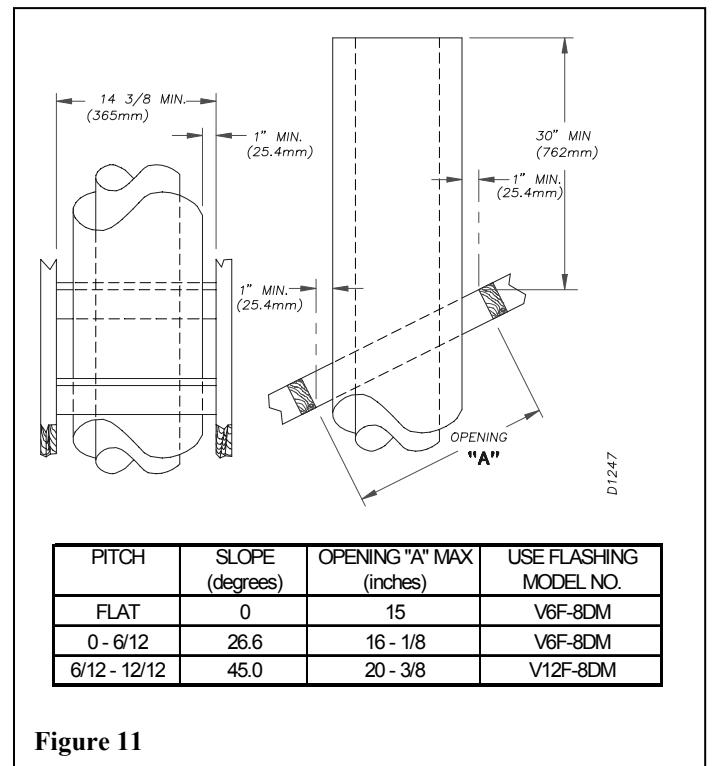

Figure 11
STEP 3: Use the roof-opening chart (figure 11) below to determine the correct opening length and flashing required.